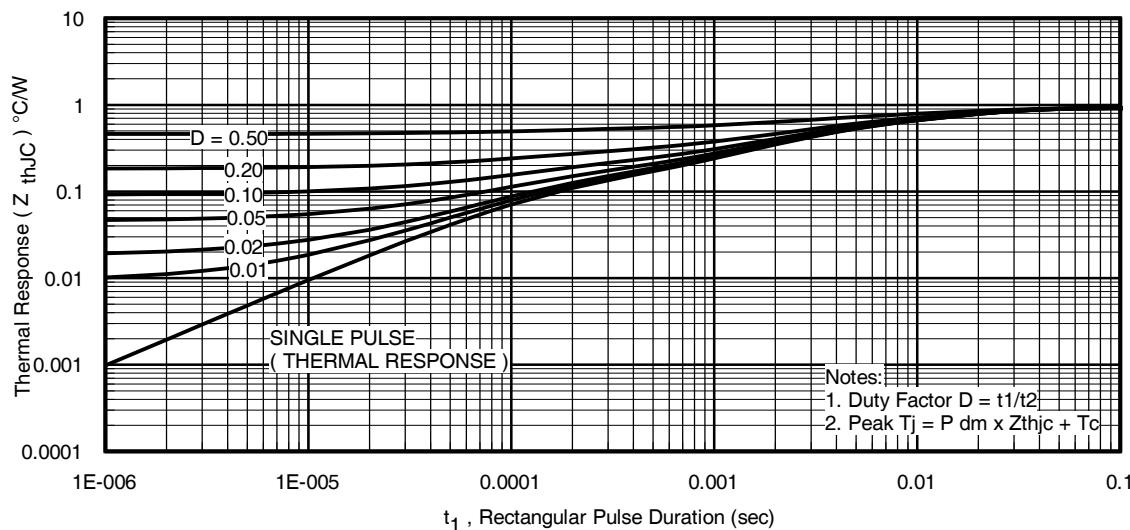

Fig 13. Maximum Effective Transient Thermal Impedance, Junction-to-Case
7. ΔT = Allowable rise in junction temperature, not to exceed T_{jmax} (assumed as $25^{\circ}C$ in Figure 13, 14).
$Z_{thJC}(D, tav)$ = Transient thermal resistance, see Figures 13)